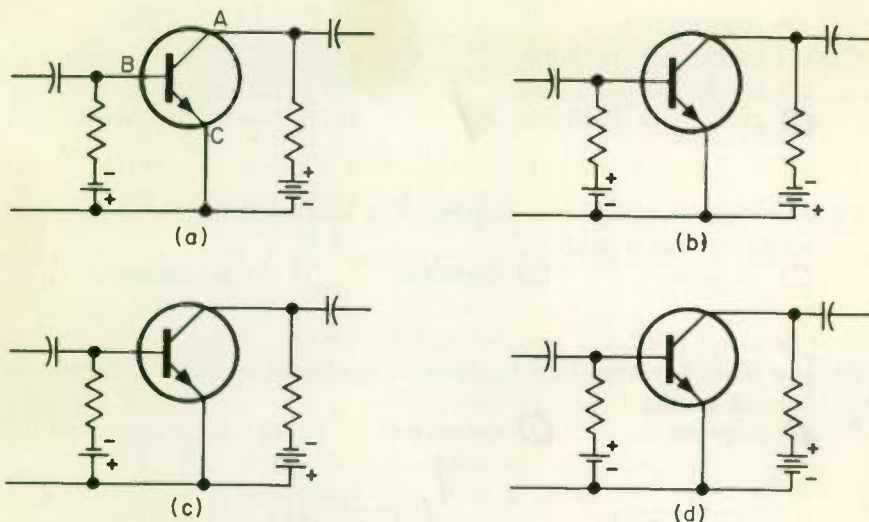

Fig. 46
- (1) (a) (2) (b) (3) (c) (4) (d) (5) None of them
16. In Fig. 46(a), lead A of the transistor is known as the:
- (1) ejector (5) collector
(2) emitter (6) base
(3) remitter (7) cathode
(4) anode (8) getter
17. In Fig. 46(a) lead B of the transistor is known as the: (Choose answer from selections for Question 16). 6
18. In Fig 46(a) lead C is known as the: (Choose answer from selections for Question 16). 2
19. What type of transistor is used in the circuits of Fig. 46?
- (1) NPN (2) PNP
20. In which diagram of Fig. 46 are both bias batteries connected with correct polarity?